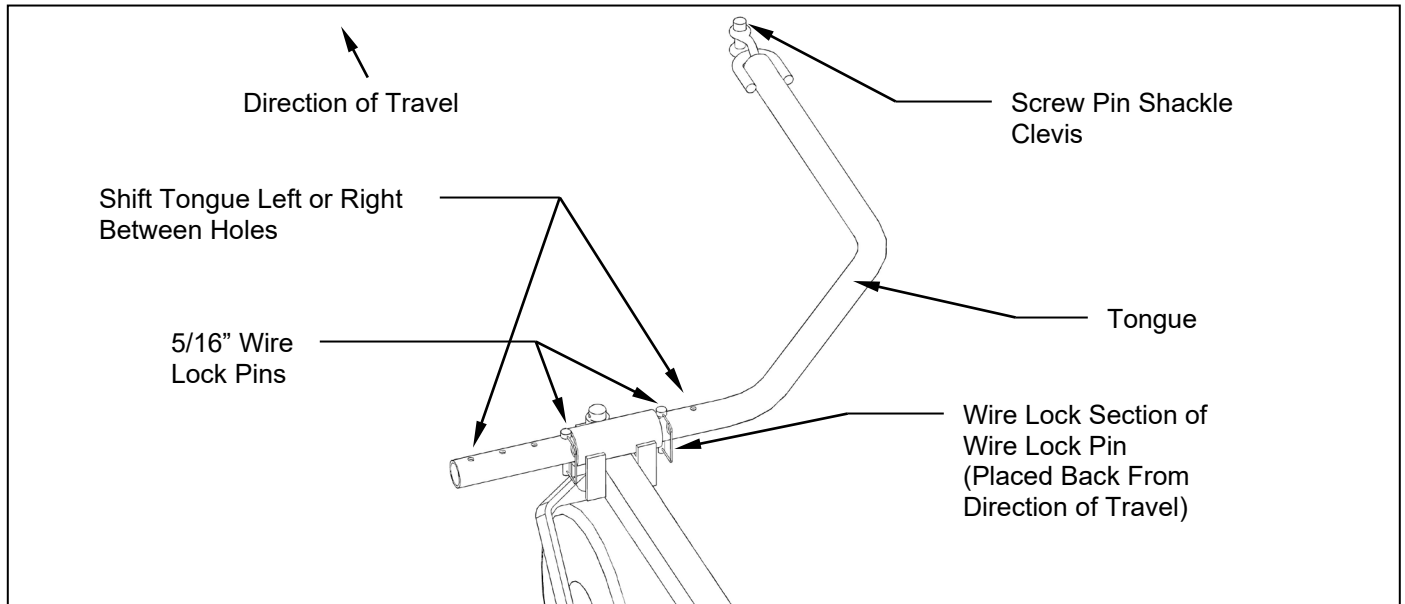

Figure 3: ATV Tongue Assembly
**Note:** To help prevent any unwanted pin removal caused by oncoming debris install the 5/16" wire lock pins with the wire lock section back from the direction of travel. **See Figure 3.**
The tongue is designed to adjust from left to right within the hitch pivot. This allows the mowers position to be varied behind the tow vehicle. This is accomplished by pulling the 5/16" wire lock pins out and choosing two other hole locations on the tongue. **See Figure 3.**